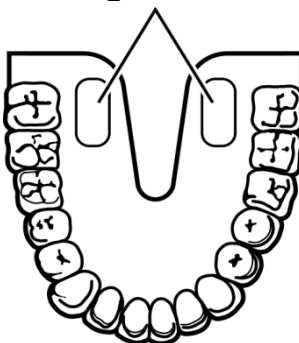

Figure 68: Location of Sublingual Pockets
- 7) Insert the Temp Probe tip deep into the sublingual pocket next to the frenulum linguae, (vertical fold of tissue in middle of tongue), on one side or the other, toward the back of the mouth (refer to Figure 68).